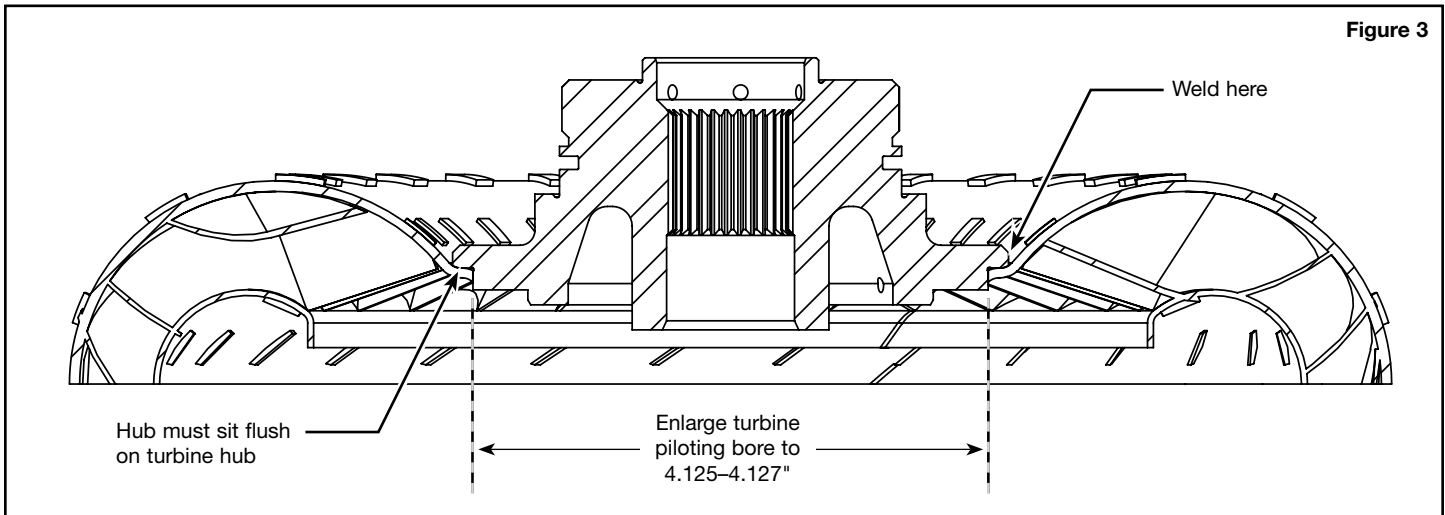

Figure 3
- b. Turn the inside of the turbine to 4.125–4.127" (Figure 3).